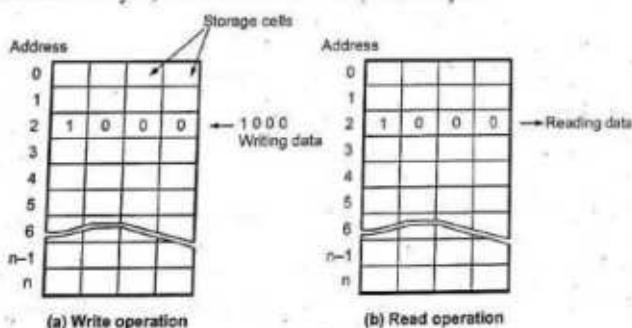

Fig. 7.1.1
- The data stored in a memory by a process called **writing** and are retrieved from the memory by a process called **reading**. Fig. 7.1.1 illustrates in a very simplified way the concept of write, read, address and storage capacity for a generalized memory.
- As shown in the Fig. 7.1.1 a memory unit stores binary information in groups of bits called **words**. A word in memory is an entity of bits that moves in and out of storage as a unit. A word having group of 8-bits is called a **byte**. Most computer memories use words that are multiples of eight bits in length. Thus, a 16-bit word contains two bytes, and a 32-bit word is made of 4-bytes.